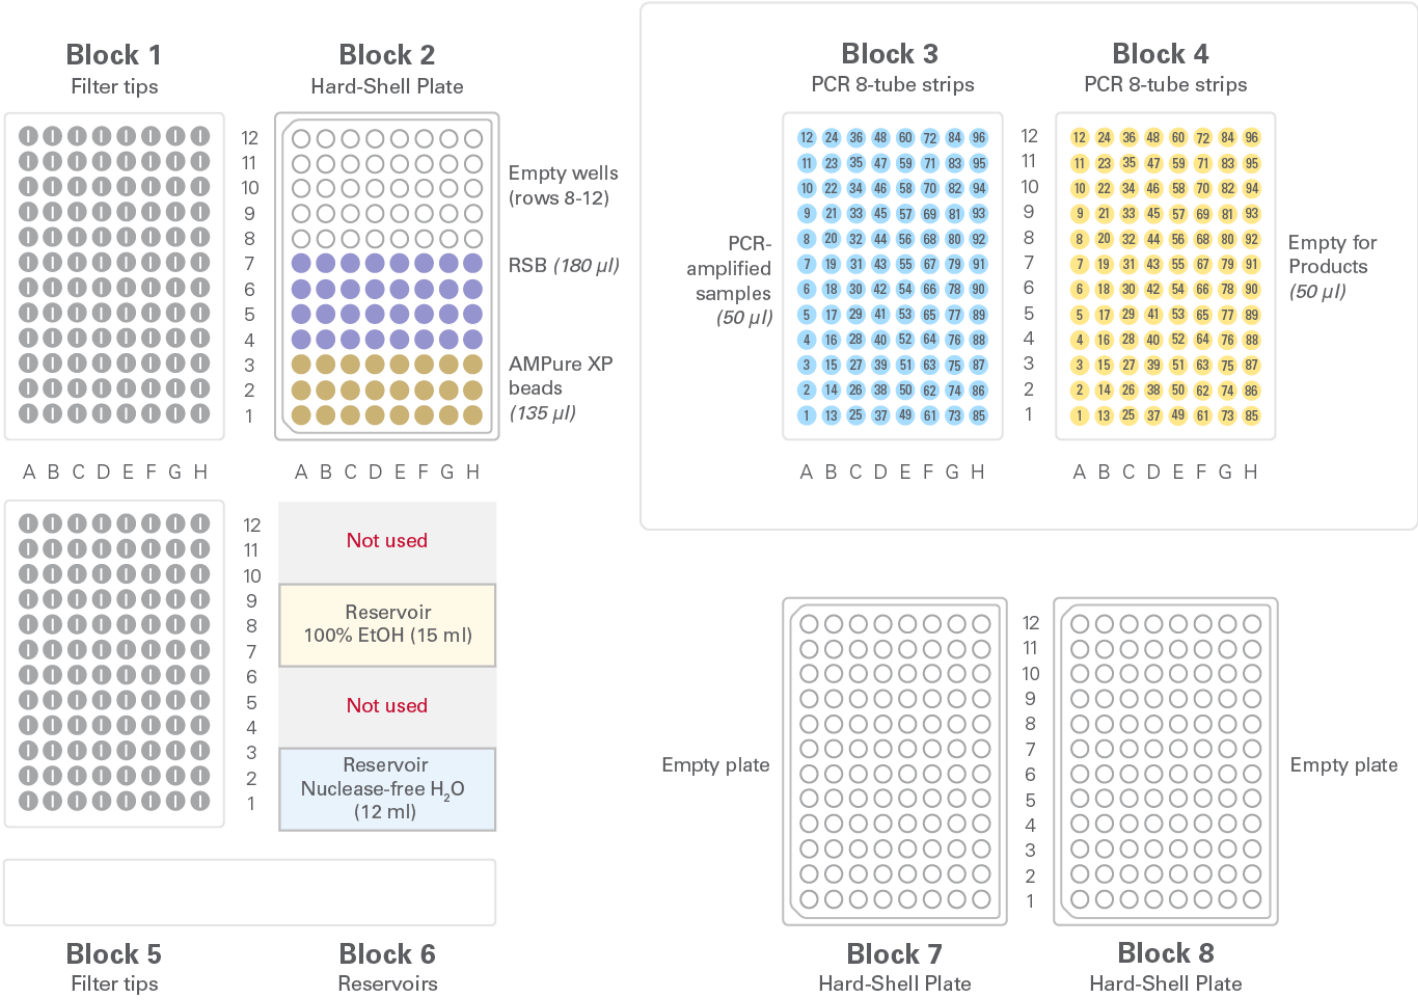

Figure 4. Loading layout for PCR cleanup.
3. Load consumables onto the work surface and aliquot reagents, following the layout in Figure 4 (below):